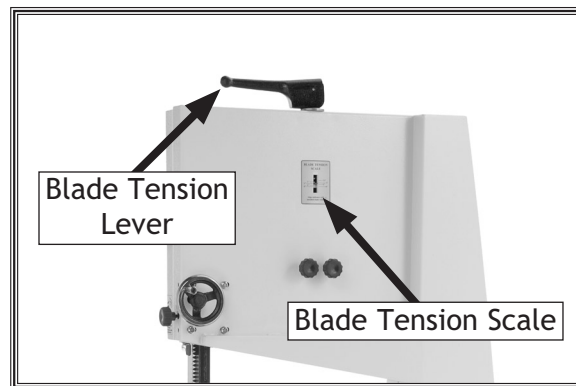

Figure 23. Blade tension scale.
2. With the blade tension lever in the down (engaged) position, adjust the blade tension until the indicator on the blade tension scale (**Figure 23**) matches the size of blade installed on the bandsaw.